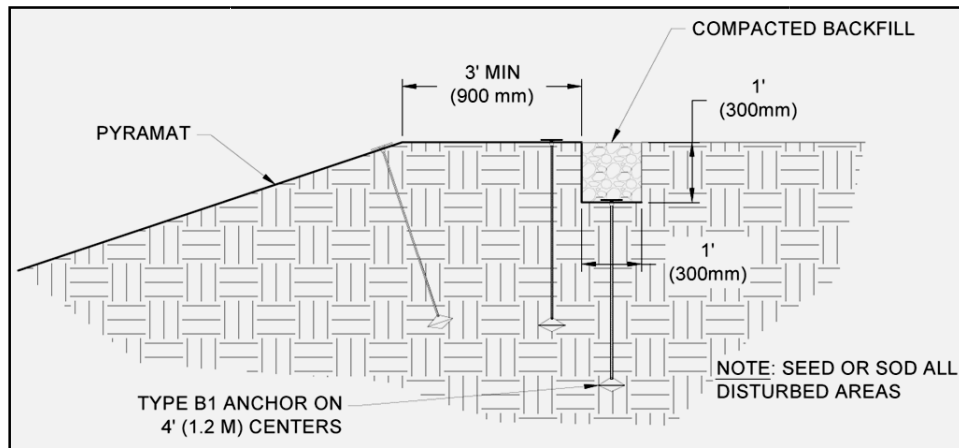

Figure 2: Crest of Slope (COS) Trench
4. Excavate a Crest of Slope (COS) trench a minimum of 12 in x 12 in (300 mm x 300 mm) along both sides of the installation. Each COS trench must be a minimum of 3 ft (900mm) over the crest of the slope, preferably on a relatively flat surface (Figure 2).